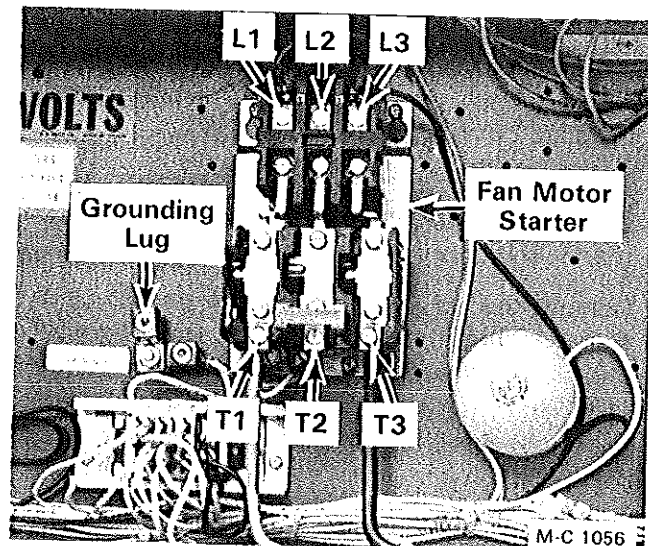

Figure 7
1. Connect one 115V line to the L1 terminal and the other 115V line to the L3 terminal at the top of the fan motor magnetic starter, see Figure 7.
2. Connect the power supply ground wire to the ground lug in the cabinet, see Figure 7. The dryer base **MUST** be grounded to a grounding rod. Select a location that will provide a good clean ground connection.
1. Connect one 115V line to the L1 terminal and the other 115V line to the L3 terminal at the top of the fan motor magnetic starter, see Figure 7. Connect the 230V line to terminal L2 at the top of the magnetic starter.
- Three phase motors** - Move the wire from terminal T1 to T3 and T3 to T1 on the fan magnetic starter in the control cabinet, see Figure 7.